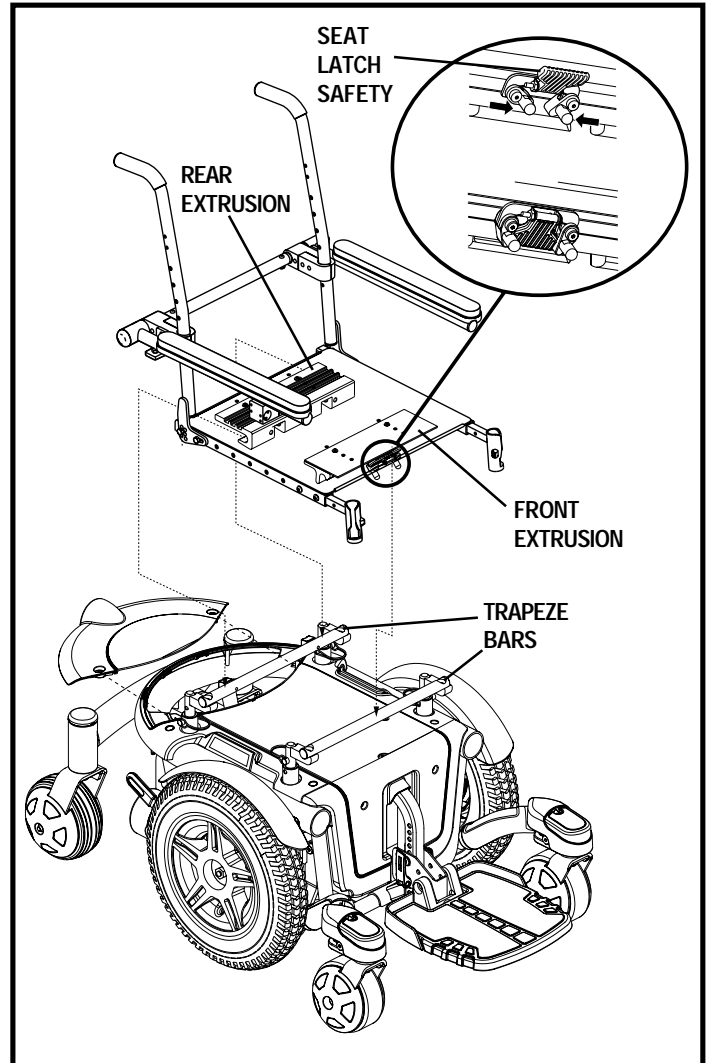

Figure 11. Universal Mounting System and Specialty Seat
It may be necessary to install the seat either prior to initial operation or after transporting your power chair. If your power chair is equipped with a Synergy Seat or a Synergy TRU-Balance power positioning seating system, refer to the information provided in separate manuals. Specialty Seats are attached to the power base with the Universal Mounting System (UMS). The UMS consists of universal parts that may be attached to the seat, regardless of seat width or seat depth. The two main components are aluminum extrusions mounted to the seat base. These extrusions attach to a pair of trapeze bars that are mounted to the power base. See figure 11.
1. Tilt the seat back and slide the rear extrusion onto the rear trapeze bar. See figure 11.
4. Flip up the seat latch safety. See figure 11.